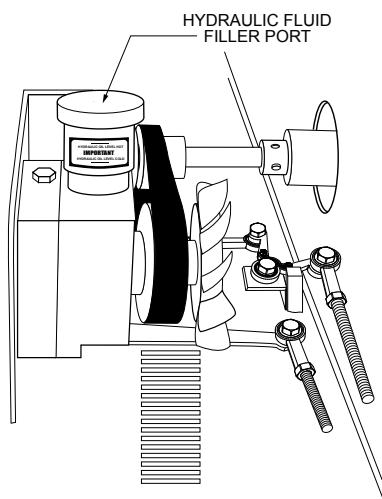

Figure 13. Hydraulic Reservoir Filler Port
1. Visually inspect the hydraulic fluid in the hydraulic reservoir (Figure 13). If the hydraulic fluid is low, fill the reservoir with ExxonMobil Nuto 46 or equivalent. The correct hydraulic fluid level will be indicated on the reservoir.